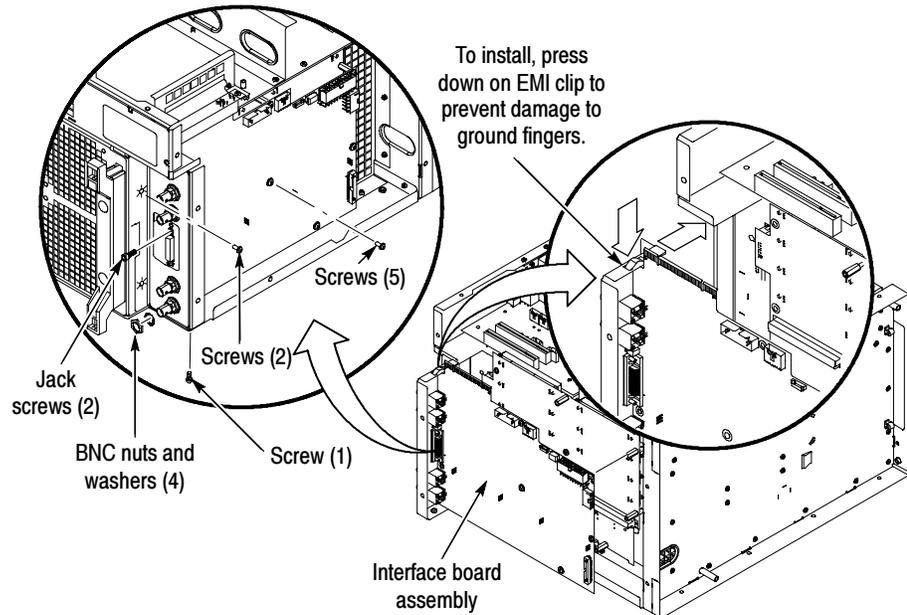

Figure 7: Removing the interface board
3. Remove the hardware from the I/O bracket - four BNC nuts, two jack screws, and two chassis screws. (Refer to Figure 7 on page 12)